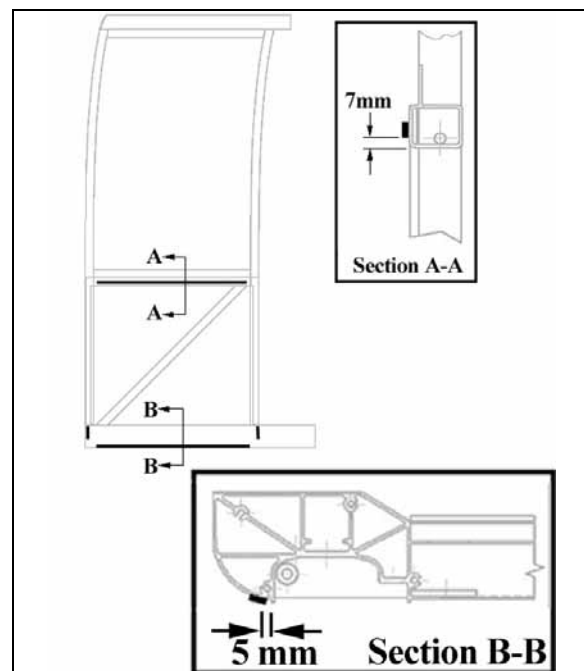

FIGURE 42 : SIDE PANEL INSTALLATION – DOUBLE FACE ADHESIVE TAPE APPLICATION ON THE SLIDE-OUT STRUCTURE
3. Refer to figure 42 for 1/16x1/4 double face adhesive tape location on structure. Do not remove the tape blue protective layer [7mm≈9/32"] [5mm≈6/32"];